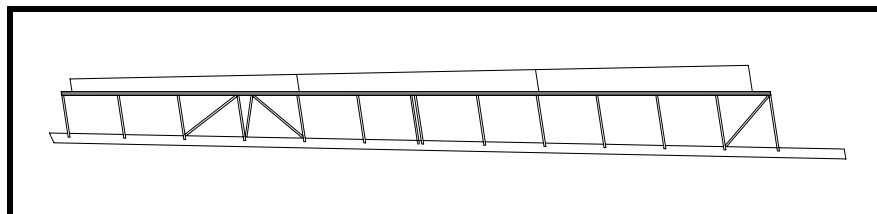

Figure 19
- ❑ Fit and install the lower leading edge skin between Sta. 10 and 14. See Figure 19. This skin should extend to the outboard end of the aileron spar. Before installation, scarf for the joint for the trailing edge skin.